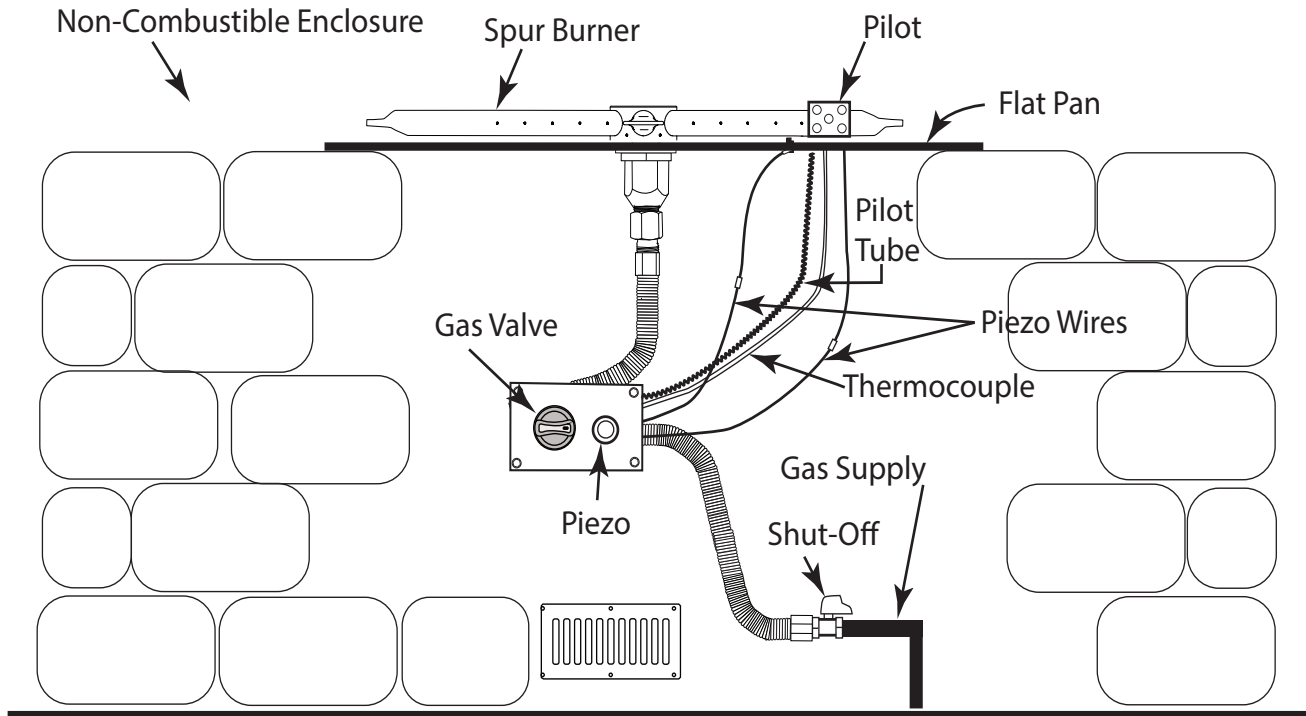

Fig. 10 Wiring diagram for complete system.
Step 10: Test the ignitor by pushing and holding the red button to ensure the 2-probe ignitor is sparking inside the ignition box in the burner pan. The spark should be located directly over top of the burner port hole for proper ignition of the gas as previously discussed. **Note:** Fig. 10 show details of the wiring.